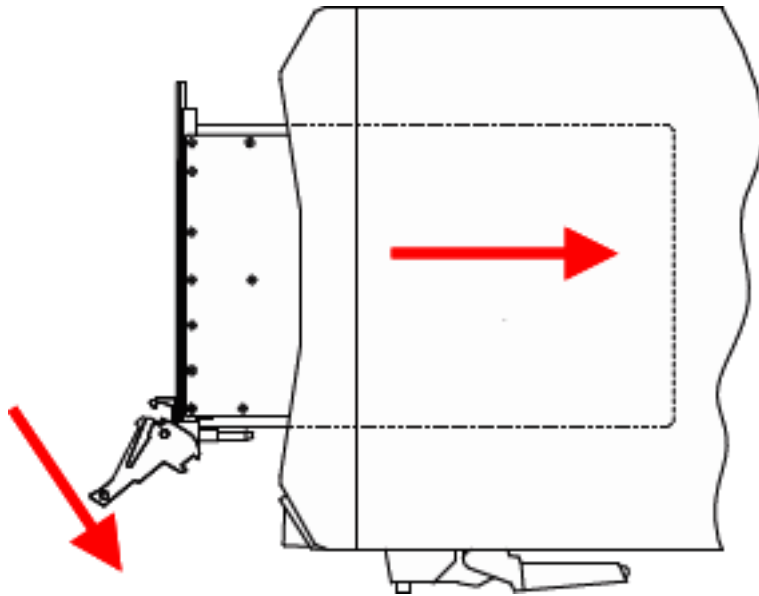

Figure 1-3 Installing the module to the chassis
- 4** Hold the module by the injector/ejector handle, and slide it into an available PXIe or hybrid slot, as shown in Figure 1-3.